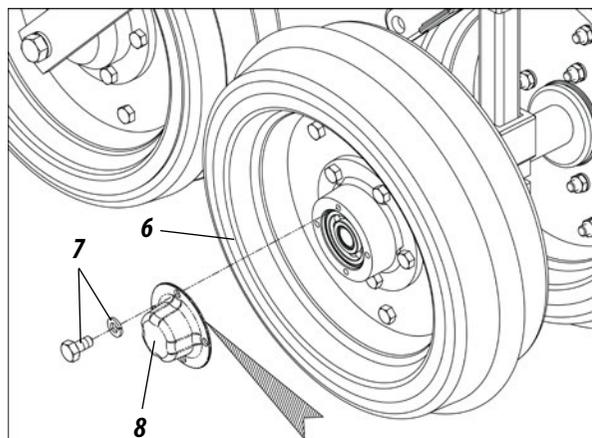

Figure 51
02 - In oscillating wheels (6) loosen the screws and washers (7), remove the cap (8) and put some new grease. Replace the cap on the wheel and fix it with the screws and washers (8), as shown in Figure 51.